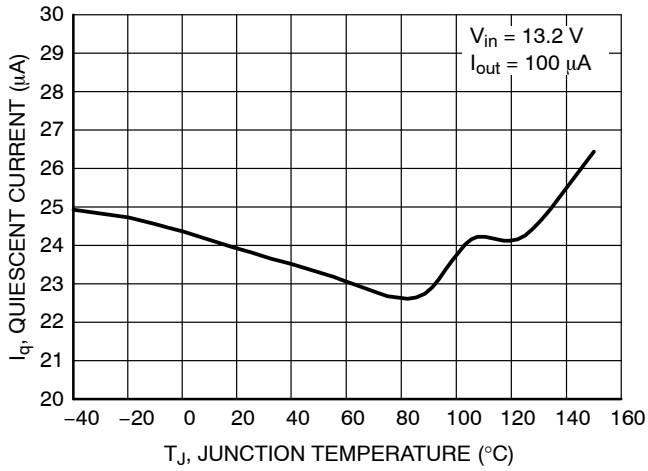
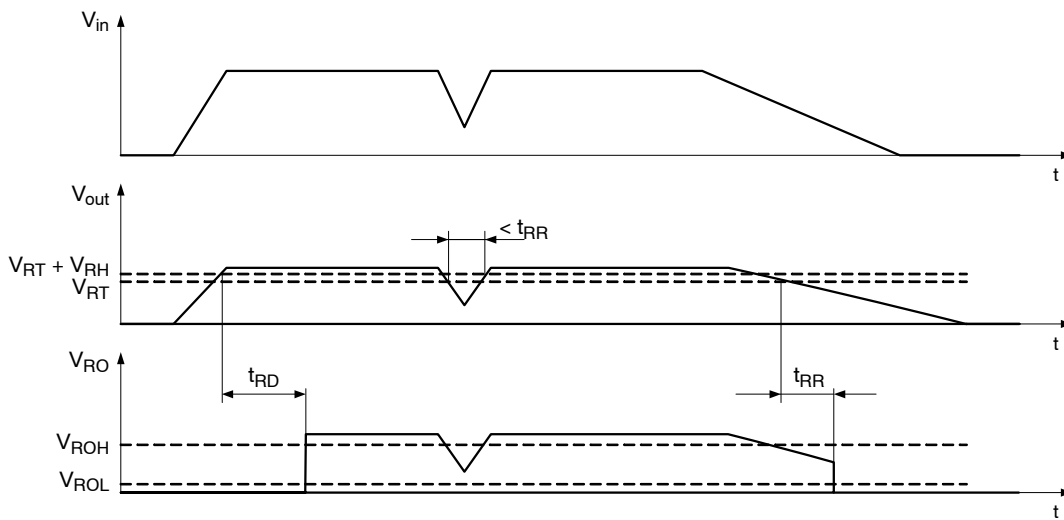

Figure 4. Quiescent Current vs. Temperature
Figure 33. Reset Function and Timing Diagram
The NCV8772 regulator is self-protected with internal thermal shutdown and internal current limit. Typical characteristics are shown in Figure 4 to Figure 33.
A reset signal is provided on the Reset Output (RO) pin to provide feedback to the microprocessor of an out of regulation condition. The timing diagram of reset function is shown in Figure 33. This is in the form of a logic signal on RO. Output voltage conditions below the RESET threshold cause RO to go low. The RO integrity is maintained down to V_{out} = 1.0 V. For 5 V voltage option, the Reset Output (RO) circuitry includes internal pull-up (30 kΩ) connected to the output (V_{out}) No external pull-up is necessary.